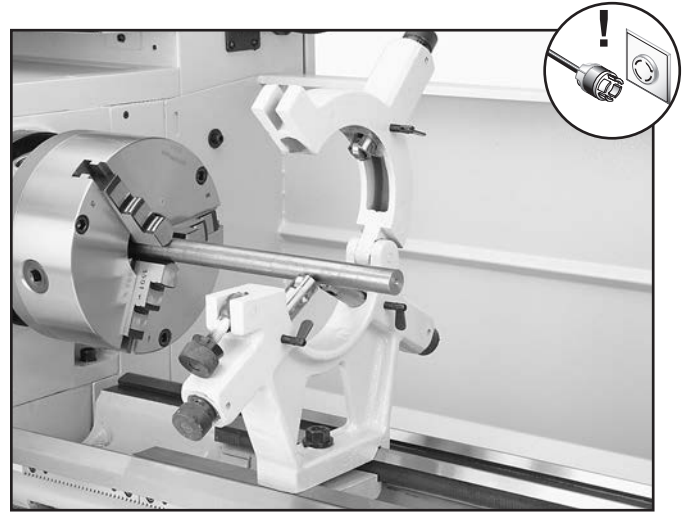

Figure 57. Workpiece mounted in the steady rest.
4. Loosen the clamp knob that secures the two halves of the steady rest and open the top portion, as shown in **Figure 57**.
6. Use the finger adjustment knobs to position the bottom two finger rollers against the workpiece, as shown in the example of **Figure 57**.